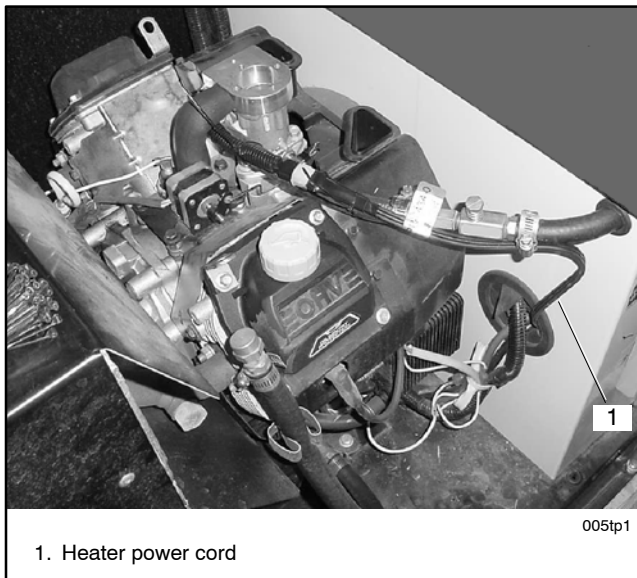

Figure 16 Routing the Power Cord, 8.5/11RMV
- Models 8.5/11RMV: see Figure 16.